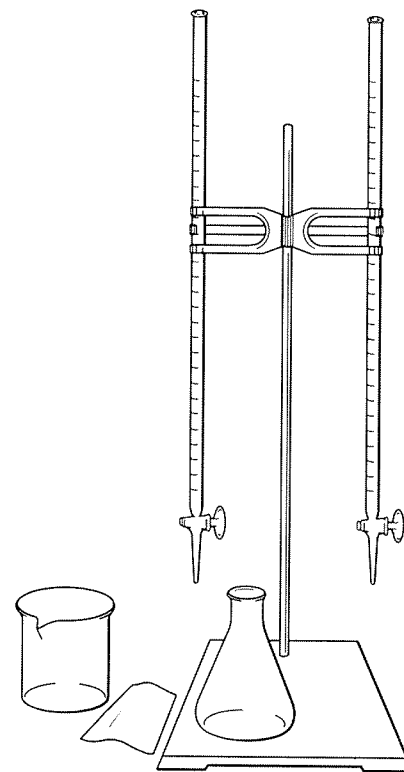

Figure 20A-1
4. Gradually dispense some of the standardized NaOH solution into the titration flask. Swirl the flask constantly. See Figure 20A-1. Continue adding NaOH, slowly noting any changes in the flask.